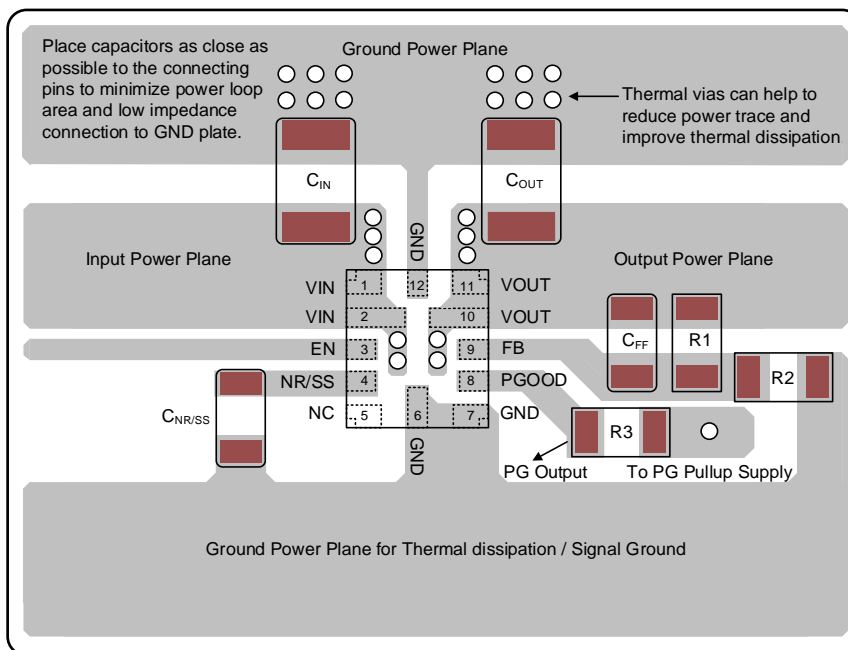

Figure 9. PCB Layout Guide for WQFN-12L 2.2x2.5 (FC) package
5. Figure 9 and Figure 10 show a layout example that reduces conduction trace loops, helping to minimize inductive parasitic and load transient effects while improving the circuit stability.